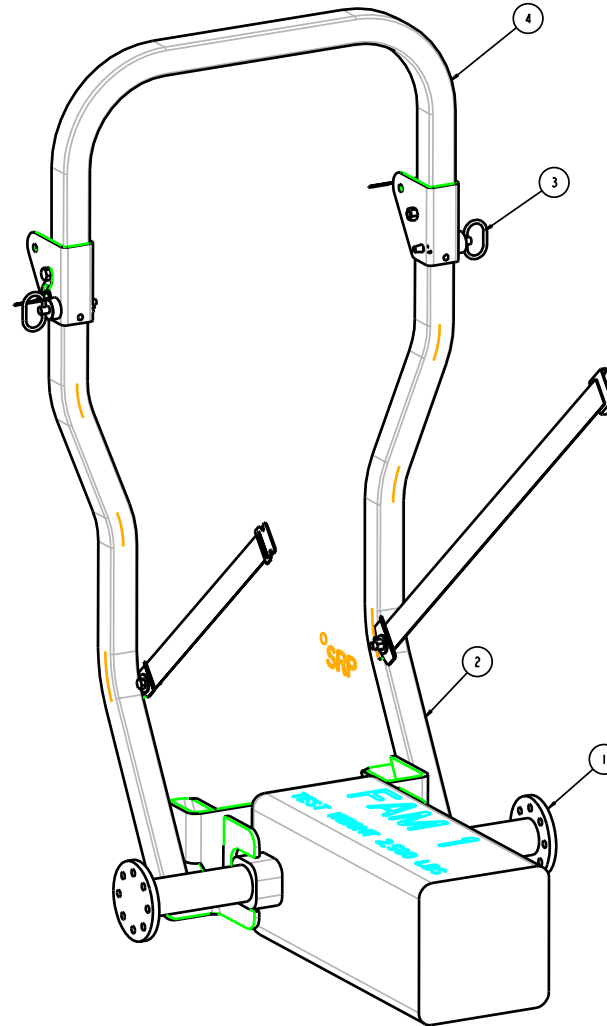

**FIGURE 3
- 9) Install the seat belt to each side of the rollbar using (2) 7/16-14unc x 1.25 grade 5 bolts, (4) 7/16" flat washers and (2) 7/16-14unc grade 5 nylock nuts. See Figure 3.